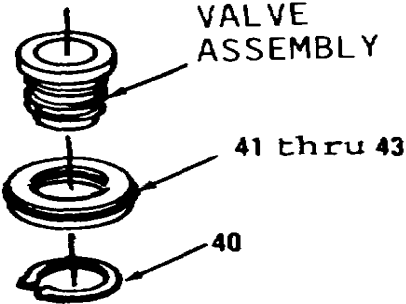

Figure 6-43.
- 19. Remove retaining ring (40) and items 41 thru 43 as an assembly (Figure 6-43) from valve assembly.
- 3. Install items 43 thru 41 as an assembly and retaining ring (40, Figure 6-43) onto valve assembly.